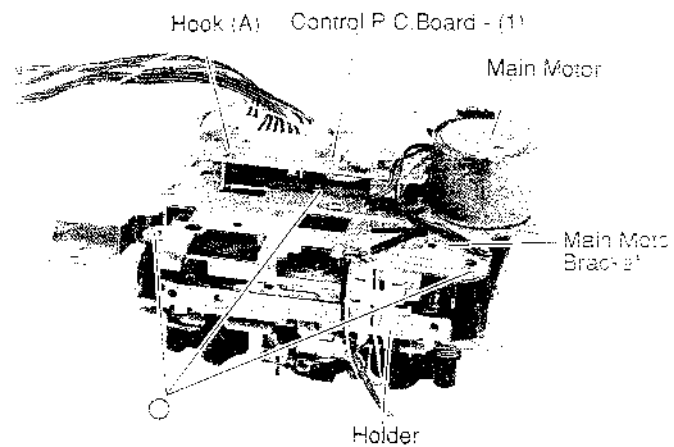

Figure 11
- (1) After removal of the Control P.C.Board - (1) to (3), remove the Main Motor Bracket by removing three screws marked "O" as shown in Figure 11.
- (1) Remove two screws marked "△" after removing the Holder as shown in Figures 11 and 14.